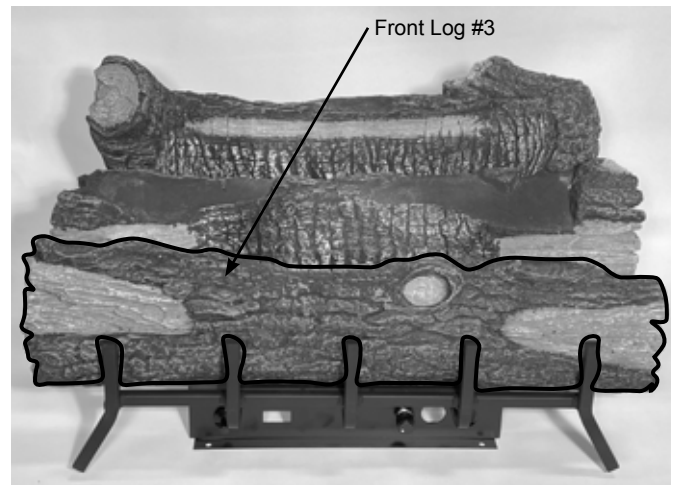

Figure 6.3 - Place Front Log
3. Place Front Log (#3) in between burner and grate. Figure 6.3